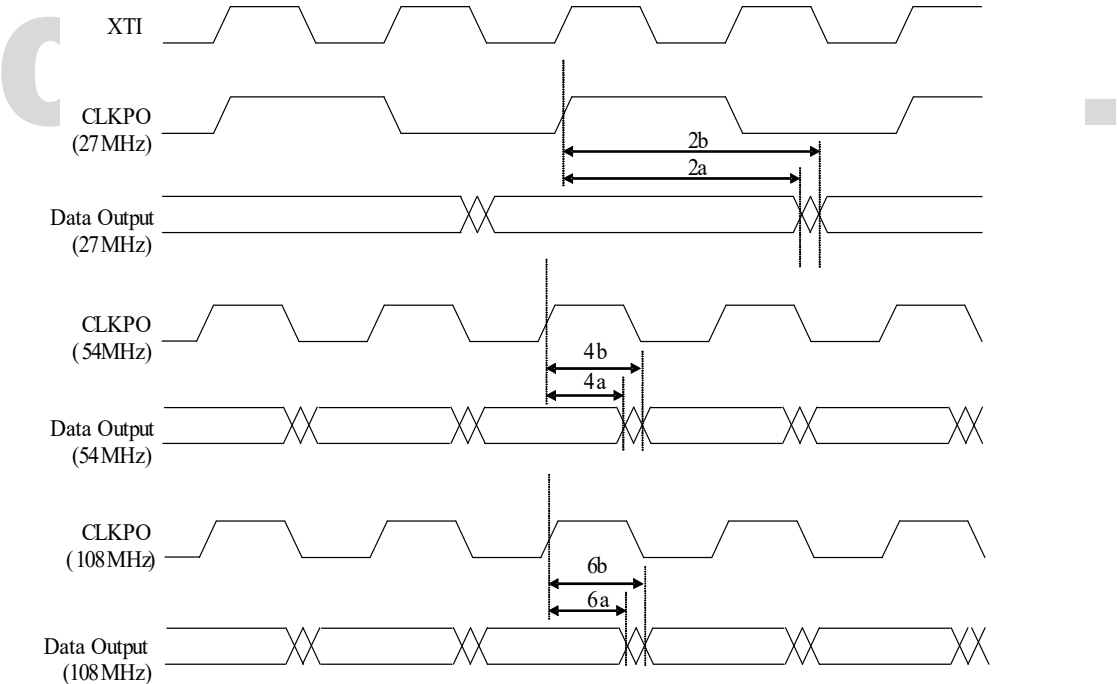

FIGURE 2. XTI AND VIDEO DATA TIMING DIAGRAM
8. CLK0 timing is related to the CLK0_DEL register value. The timing diagram in Figure 2 illustrates when CLK0_DEL is set to 0 hex and CLK0_POL is set to 0.